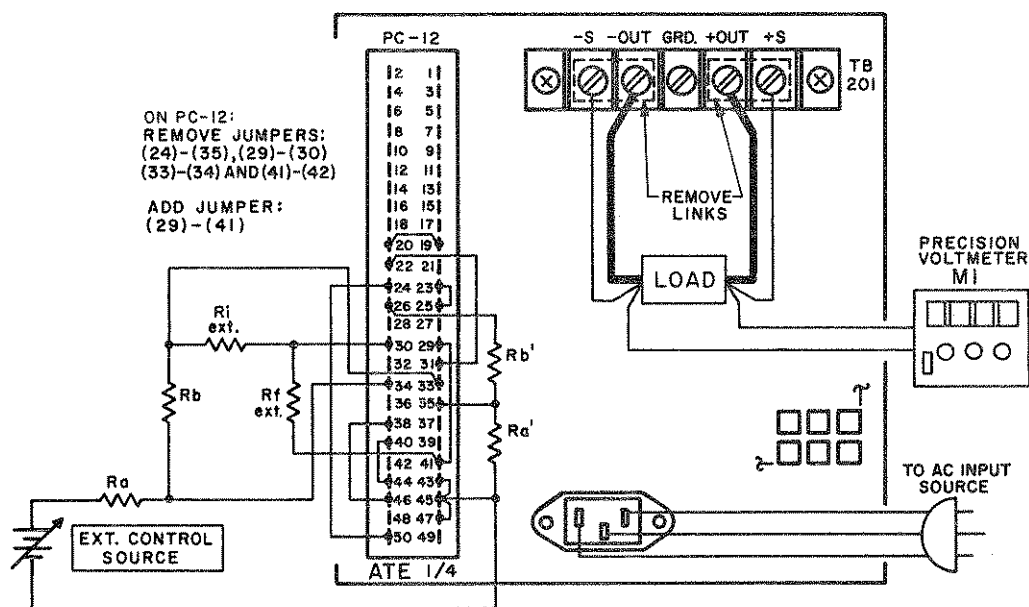

FIG. 3-30 CONNECTIONS FOR PROGRAMMING WITH REFERENCE TO THE NEGATIVE POWER SUPPLY OUTPUT.
- 1) Connect the external components, the LOAD and the PRECISION VOLTMETER (M1) to the ATE as shown in FIG. 3-30.